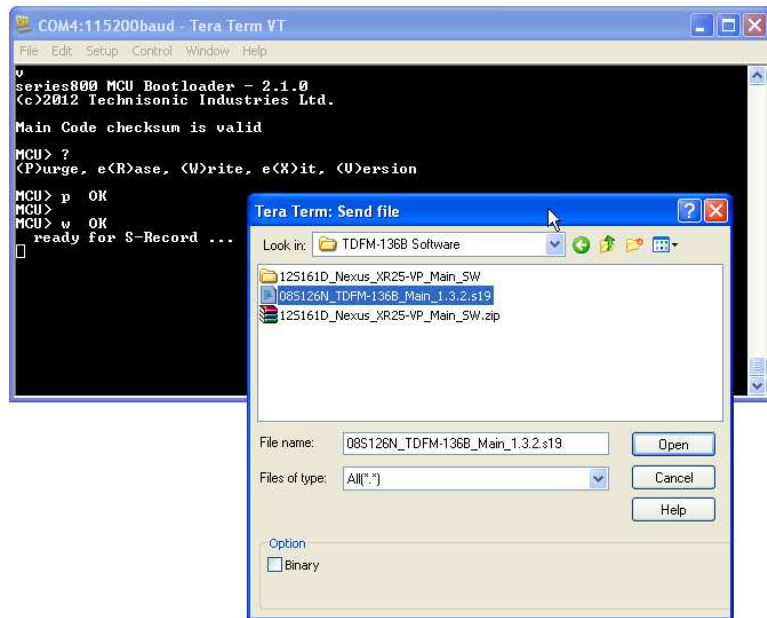

FIGURE 13: Browsing for New Firmware File
- k) On the terminal top bar select “File”, then select “Send File”. The file browse window should pop up. (See Figure 13)